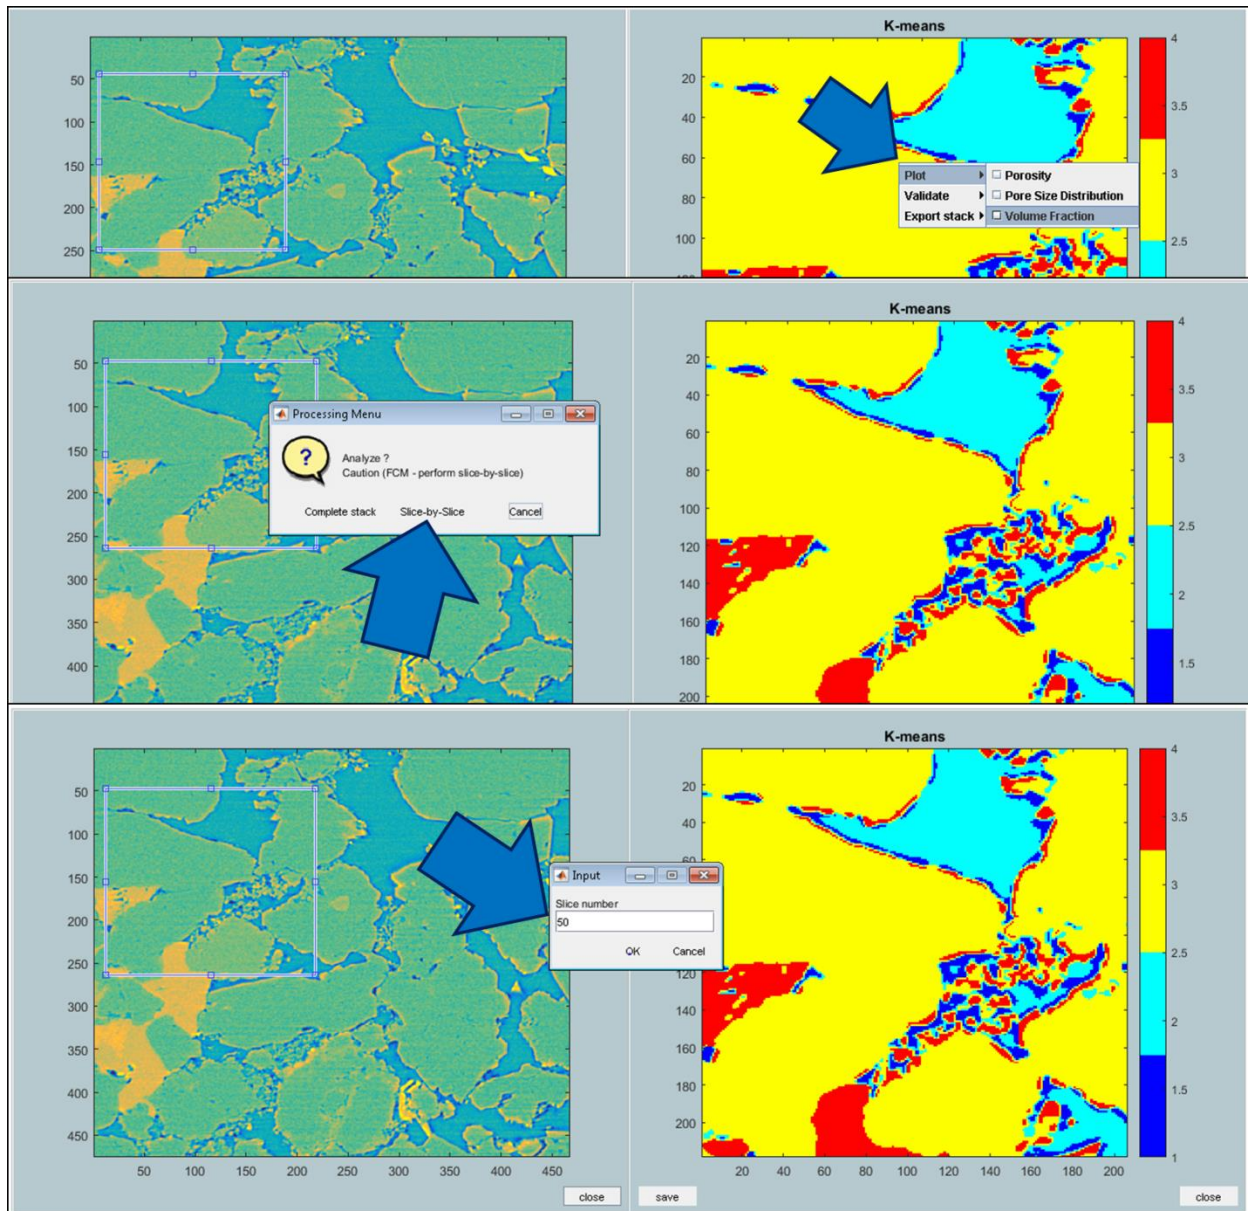

Figure 37: Volume fraction processing menu and input
- To plot volume fraction, **right click** on the segmented slice and select **Plot -> Volume Fraction**, as shown in Figure 37.